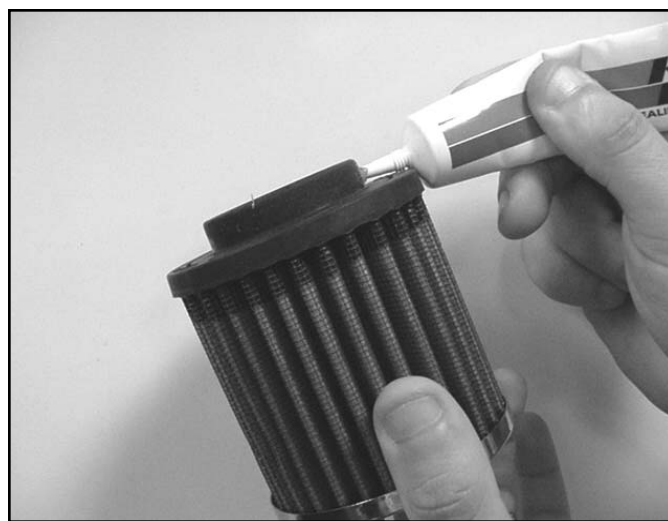

Fig. 1
2. Apply the provided K&N Sealing Grease or equivalent to the outside of the flange. (Fig. 1)